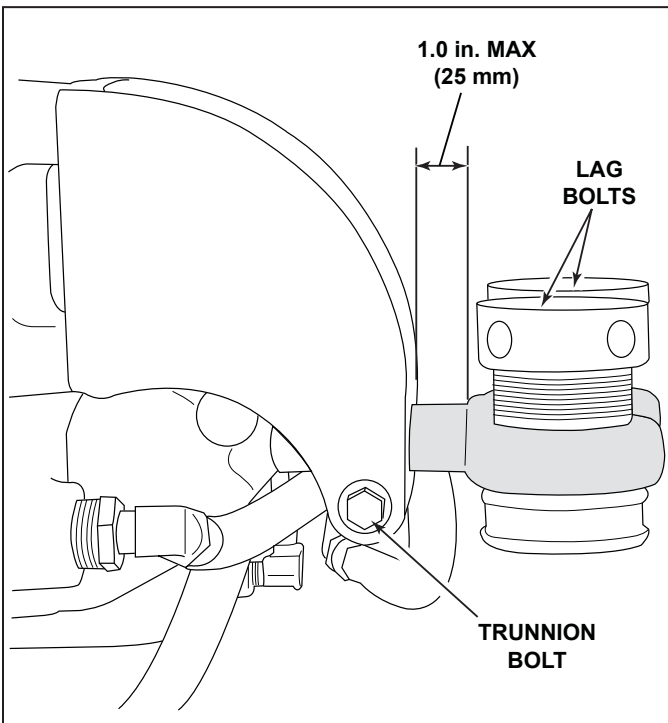

**Figure 10-23** Shaft Mating Surface Check
**NOTICE:** Some propeller shaft couplings may not have a shoulder on the mating surface. On these installations, use a straight edge to check the center line alignment. (Figure 10-23)